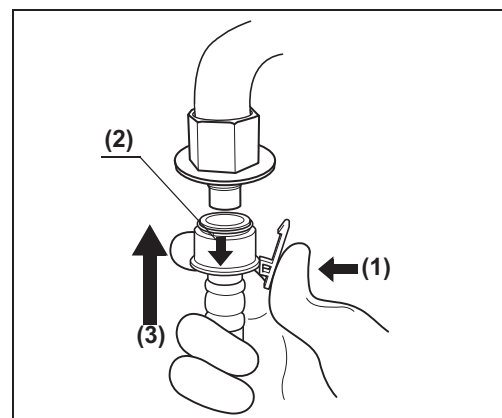

Figure 4.4
- 3 While pushing a finger against the lock lever on the water supply socket, pull the sleeve down toward the hose and fit the socket onto the water supply plug. Release the lock lever ensuring that it hooks onto the outer ring of the plug as pictured in Figure 4.4.